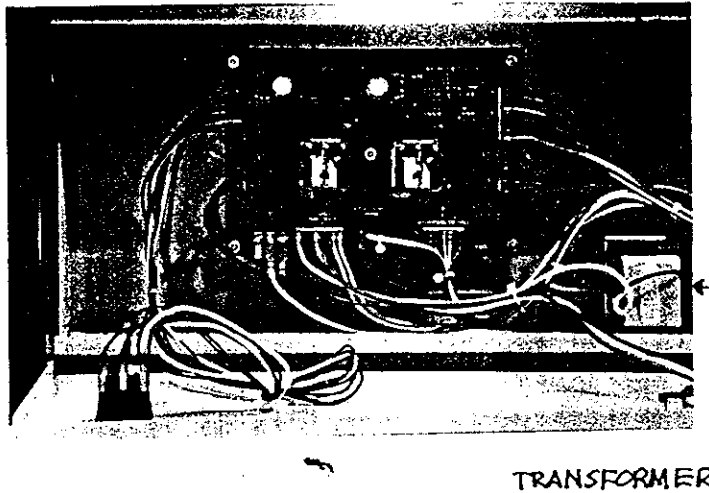

Figure 11.2.
STEP 11.2: Reconnect J8 control transformer connector on the circuit board. If condition continues, check for short in wire harness or transformer. Replace transformer if necessary. See Figure 11.2. If circuit breaker does not trip, then go to STEP 11.3.